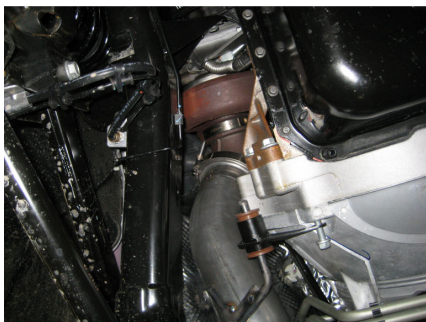

Figure 4
2. Slide the stock down pipe hanger bracket onto the **Down Pipe** hanger. Install the **Down Pipe** in the same position as the stock down pipe by reattaching the hanger bracket to the bellhousing and then attaching the flared end to the turbo using the stock band clamp. Do not fully tighten until all components are in place. **Refer to Figure 4.**